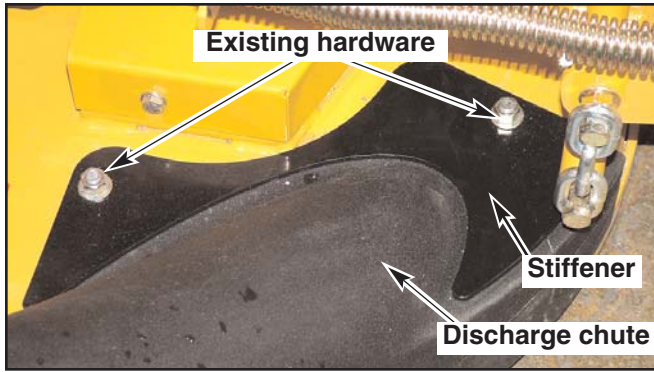

Figure 3
4. Attach the discharge chute (Ref. # 1) and stiffener (Ref. # 6) to the deck using the existing flat washers and nuts. Fig. 3 & 12